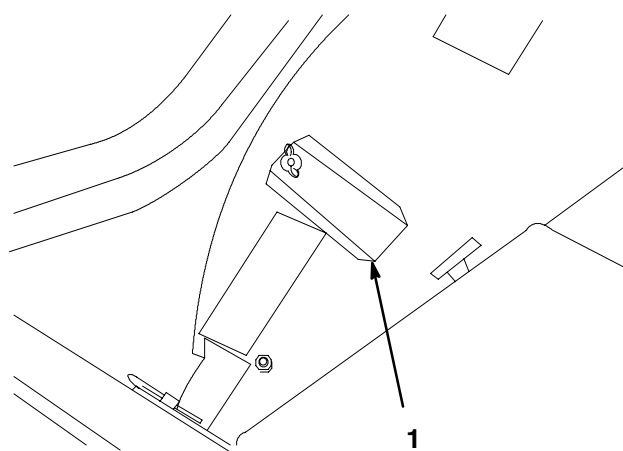

Figure 10
8. Loosen wing nut securing slot cover to top of deck (Fig. 10). Lift cover tongue out of slot, rotate cover 180°, pull cover outward to move deck door into the discharge position.